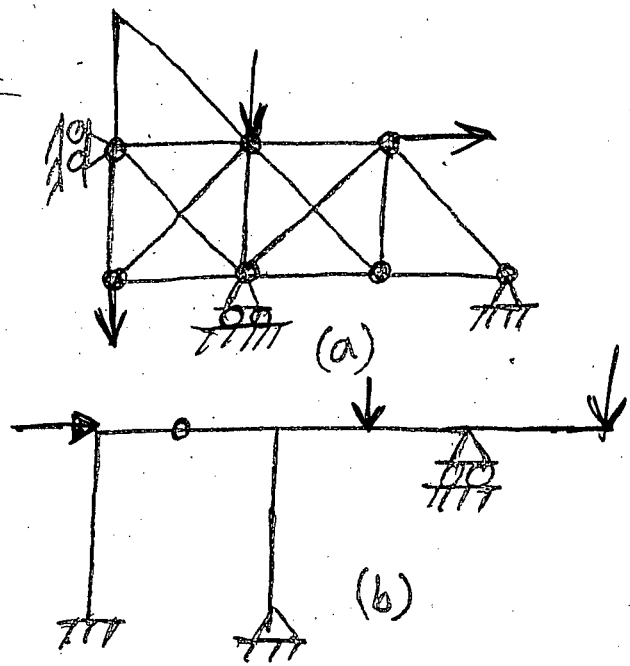

Fig. 10
- (b) Show the two possible primary (released) structures and redundants for the structures in Fig. 10. (8)